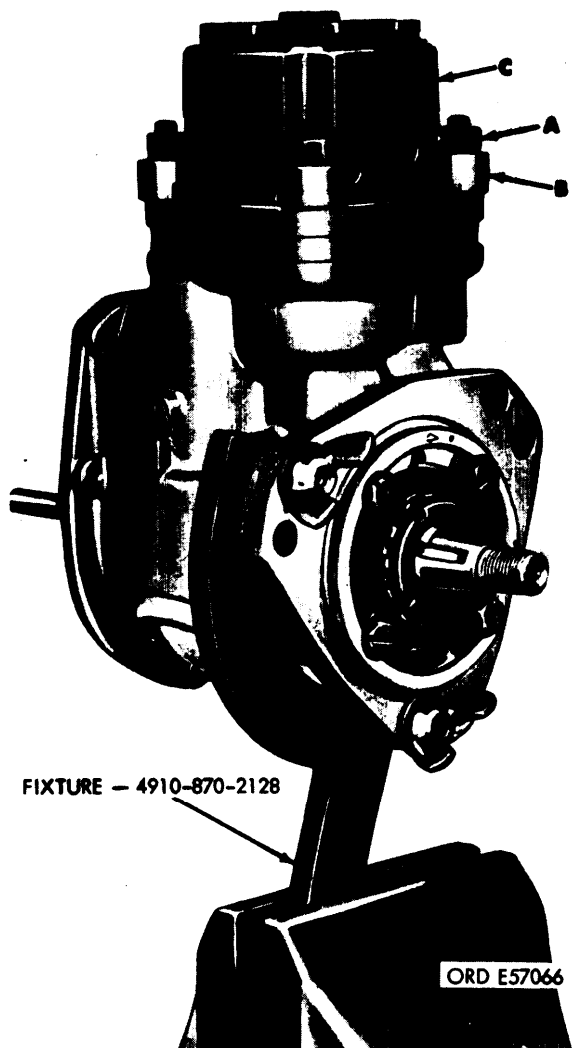

Figure 3-21. Removing hydraulic head assembly using pump holding fixture-4910-870-2128.
b. Refer to figure 3-21. Install pump holding fixture on pump body and position fixture in a vise. Remove four hydraulic head plain nuts (A), four stud sleeves (B) and hydraulic head assembly (C) from housing.